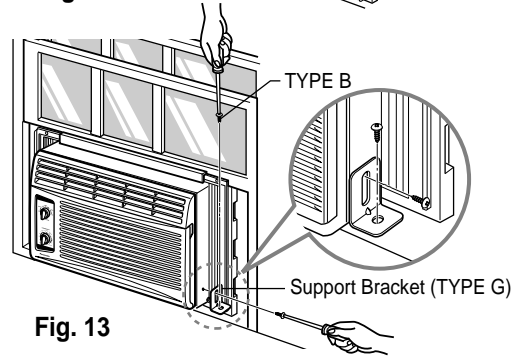

Fig. 13
- b. Fasten the support bracket (TYPE G) using a removed screw. Attach the support bracket (TYPE G) in the inner window sill with a screw (TYPE B), as shown in Fig. 13.